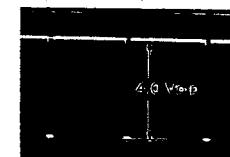

Fig. 2-1
- (1) Connect an oscilloscope to TP-1 on SG BOARD BASE (75 Ω termination).
- (2) Adjust R44 (SYNC LEVEL) so that a voltage of 4 Vp-p \pm 0.2 V is obtained as shown in Fig. 2-1.